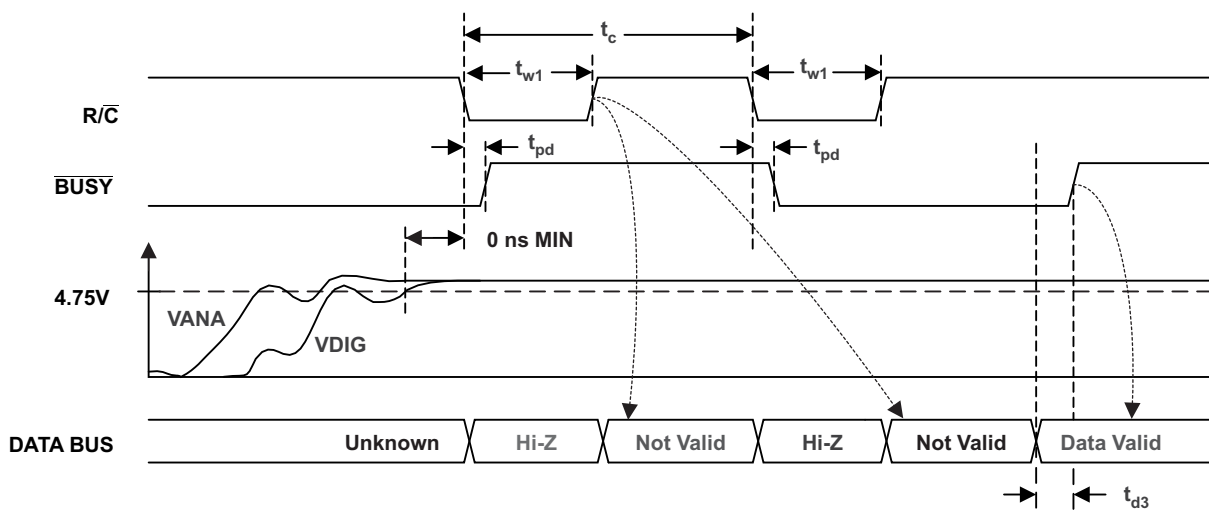

Figure 26. ADC Reset
The combination of $\overline{CS}$ (pin 25) and $R/\overline{C}$ (pin 24) low for a minimum of 40 ns immediately puts the sample/hold of the ADS8505 in the hold state and starts conversion n . $\overline{BUSY}$ (pin 26) goes low and stays low until conversion n is completed and the internal output register has been updated. All new convert commands during $\overline{BUSY}$ low will abort the conversion in progress and reset the ADC (see Figure 26).
(2) See Figure 26 for details on ADC reset.